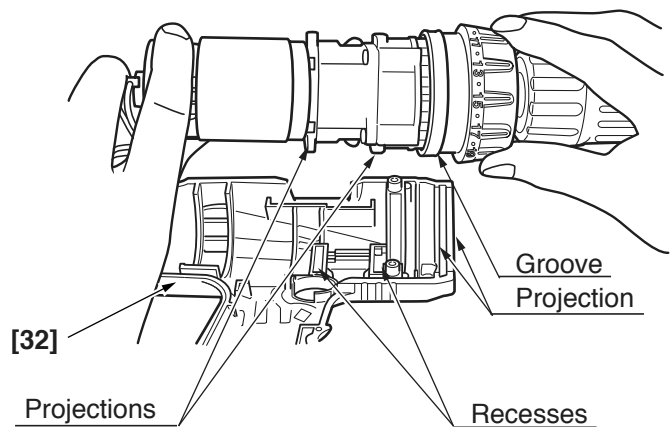

Fig. 16
- (b) Install the assembly reassembled in step (3) into Housing (A) [32]. Note that the projections on the Front Case [9] and the Motor Spacer [27] are engaged in the recesses in Housing (A) [32], and the projection on Housing (A) [32] is engaged in the groove of the Cap [4]. (See Fig. 16.)